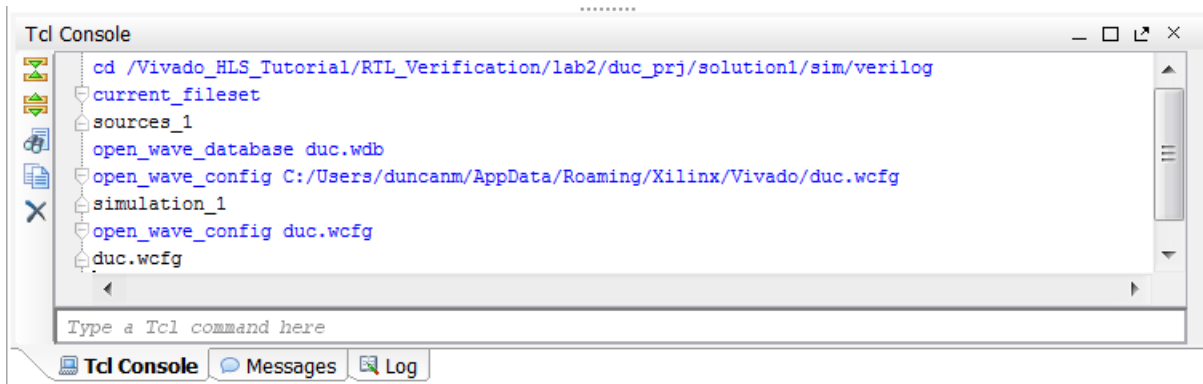

Figure 177: Opening the Trace File in Vivado
- In the Vivado Tcl Console, enter the following commands, as shown in Figure 177. This example assumes the top-level tutorial directory is C:\Vivado_HLS_Tutorial: